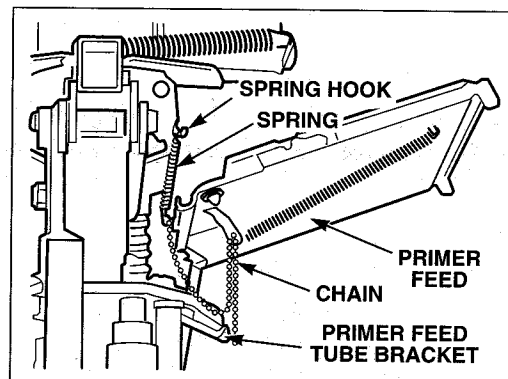
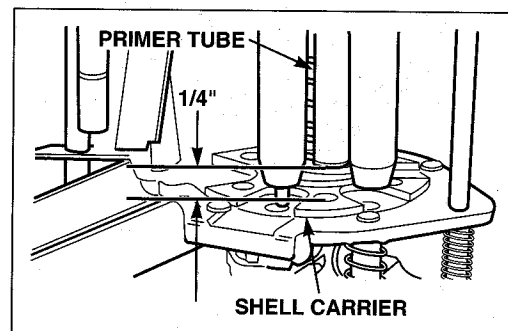

Figure 22
Figure 23
6. Hook the spring and chain assembly in position, Figure 22. The spring actuates the primer feed when you depress the handle. Adjust the chain so that the primer will drop when the primer tube is approximately $\frac{1}{4}$ inch away from the shell carrier, Figure 23.